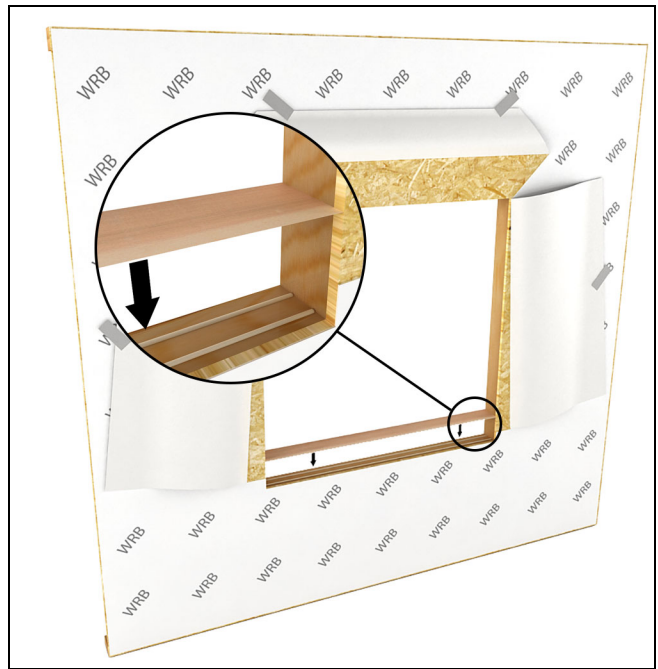

Figure 7
4. Optional: Add a continuous "Sill Wedge" out of cedar siding or similar water resistant material to create a positive drainage slope. Glue it to the RO sill with two beads of adhesive and screw in place. See Figure 7.